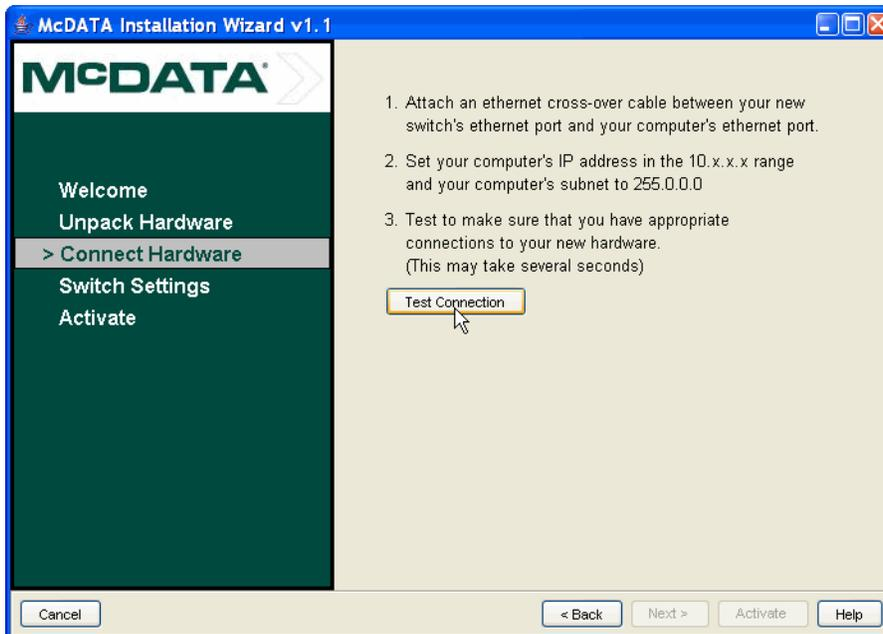

Figure 18 SANplicity wizard connection screen
3. After ensuring that the hardware is unpacked and powered up, click **Next** to proceed to test the connection, as shown in Figure 18.